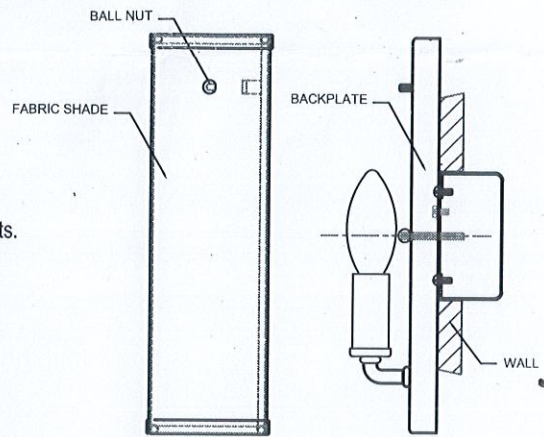

FIGURE-03
7. Attach the fabric shade to the backplate and secure with ballnut. (See Figure-03)